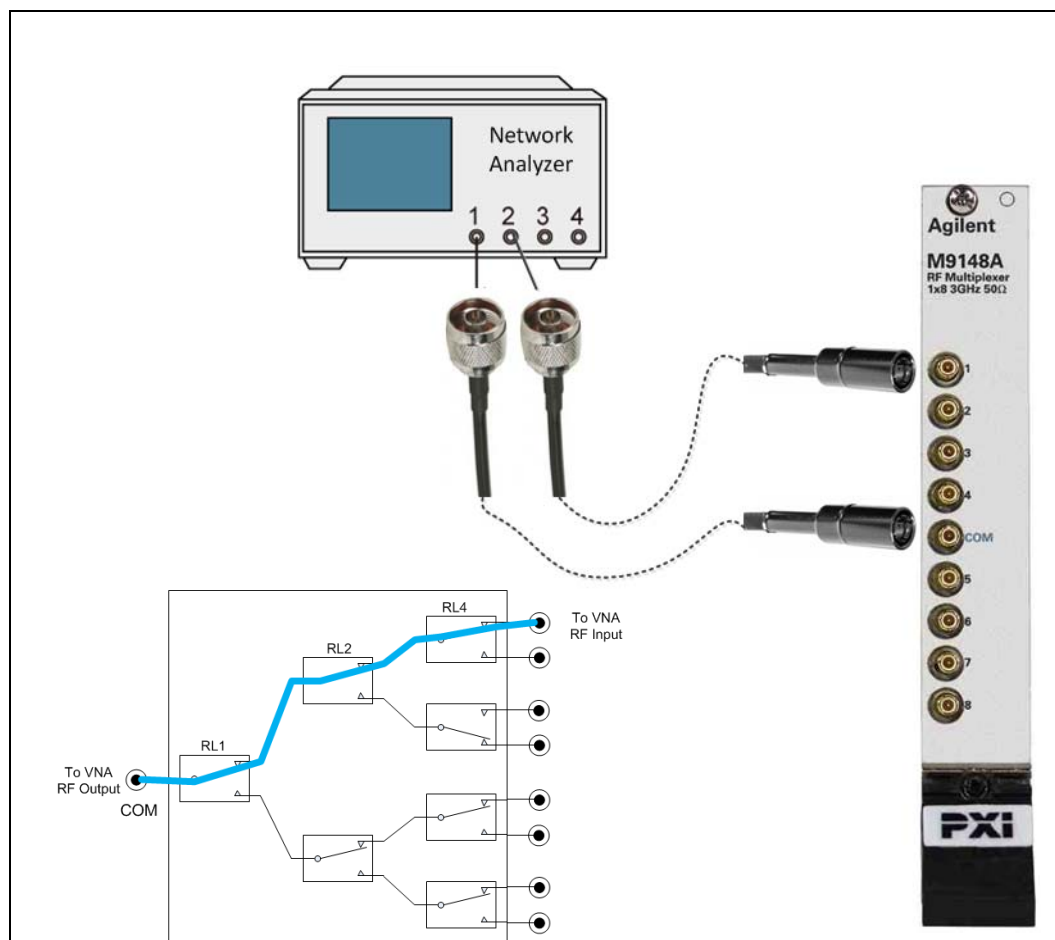

Figure 50 Basic insertion loss measurement test setup for 50 Ohm modules
Figure 50 illustrates the basic insertion loss measurement setup.
Figure 50 shows the basic measurement setup for making 50 Ω Insertion Loss test measurements on a switch module. Note that the switch module has the channel closed for the test. Use the Agilent Soft Front Panel software to open/close channels.
- 2 Connect the other ends of the cables to the module being tested as shown in Figure 50.